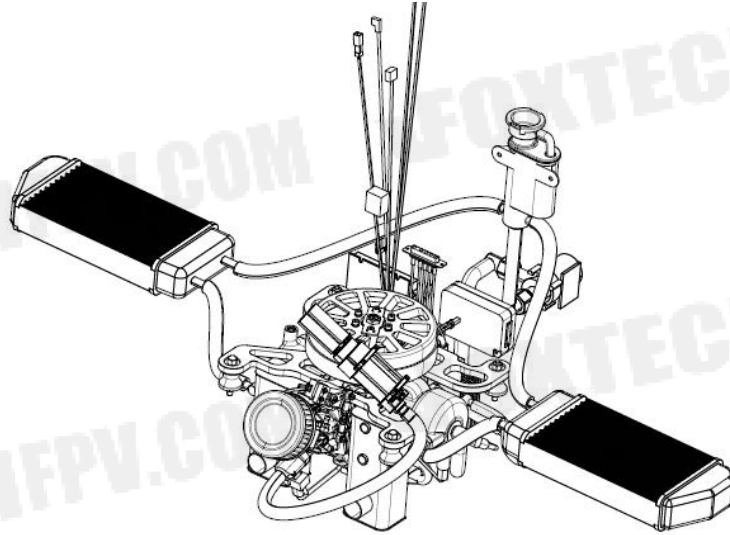

Fig. 3
1. Halo-6000 is configured as shown in Fig. 3: